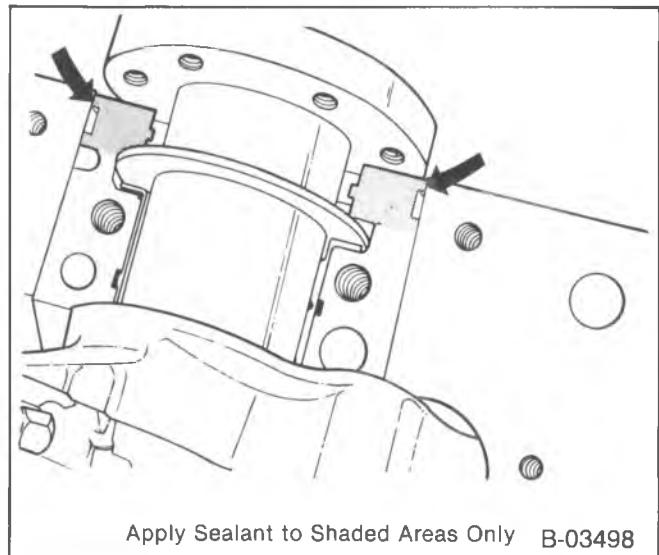

Figure 49—Applying Sealant to the Block
4. Rear main bearing cap (137).
- Apply a brush-on type oil sealing compound to the mating surface of the block and cap (figure 49). Do not allow any sealant on either crankshaft or rear oil seal.
5. Bolts (138).